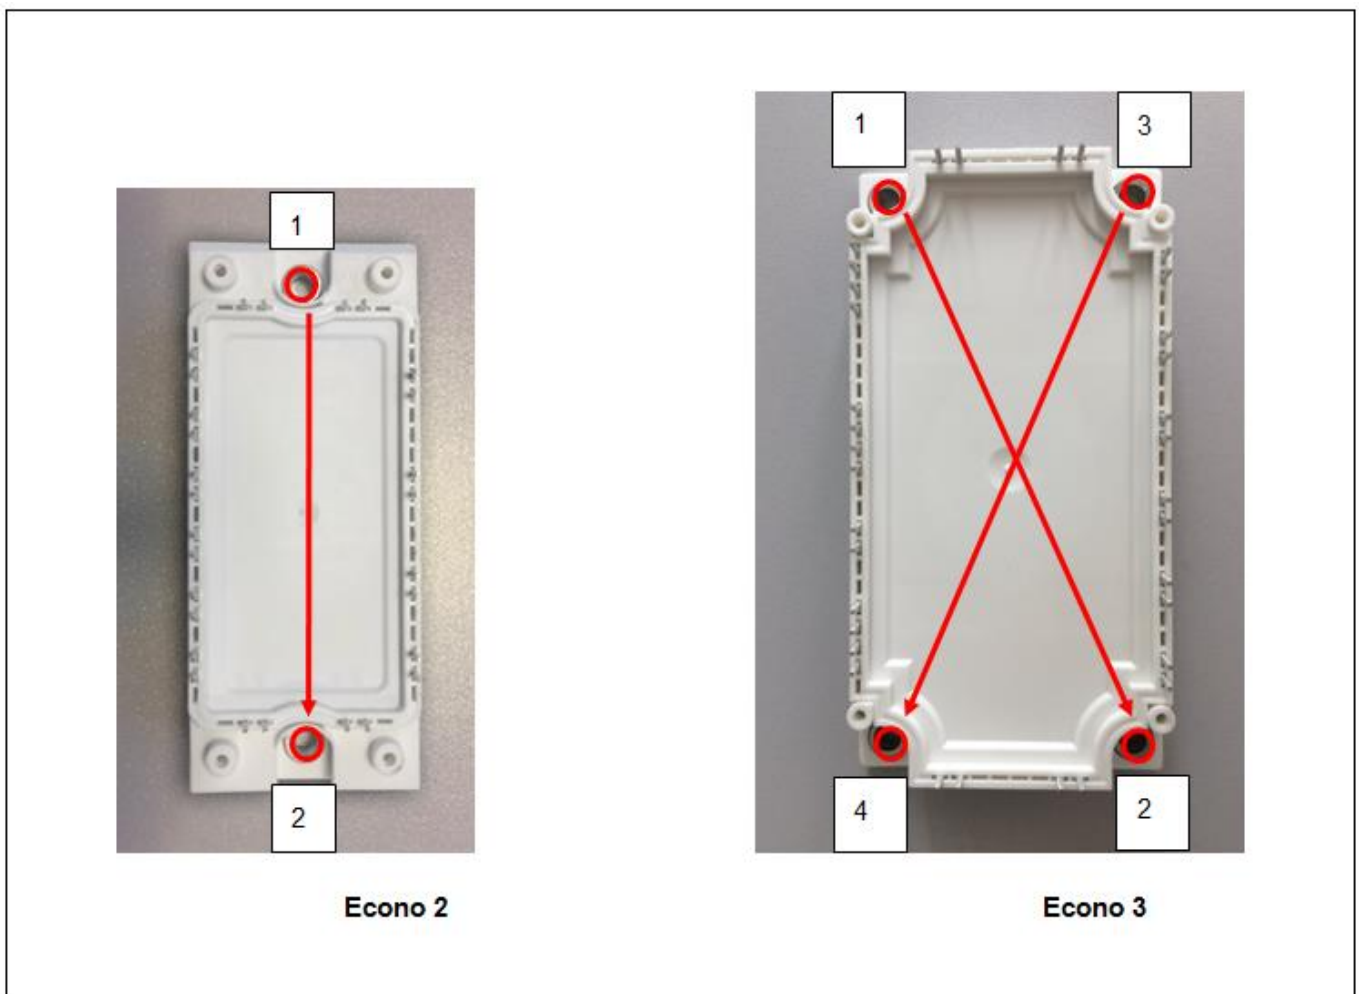

Figure 11 Screw sequence for module mounting
For optimal thermal contact of the module on the heatsink, the following procedure is recommended when tightening the fastening screws - 1 to 4 for Econo3 and 1 to 2 for Econo2 (Fig. 11).
3. For the Econo3, tighten all screws crosswise using a torque of approximately 0.5 Nm in the following sequence: e.g. screw No. 1 - 2 - 3 - 4 (see Fig. 11).